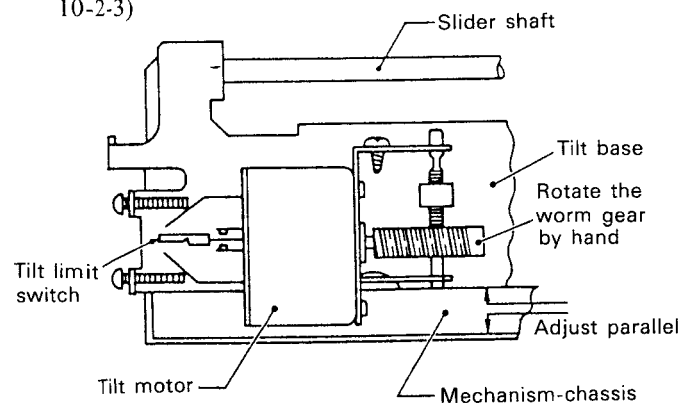

Fig. 10-2-3
- ④ Remove connector CN706 of SRVB Assembly.
- ⑤ Rotate the worm gear of the tilt motor by finger so that the lower surface of the tilt base sets parallel to the rib of the mechanism-chassis. (Refer to Fig. 10-2-3)